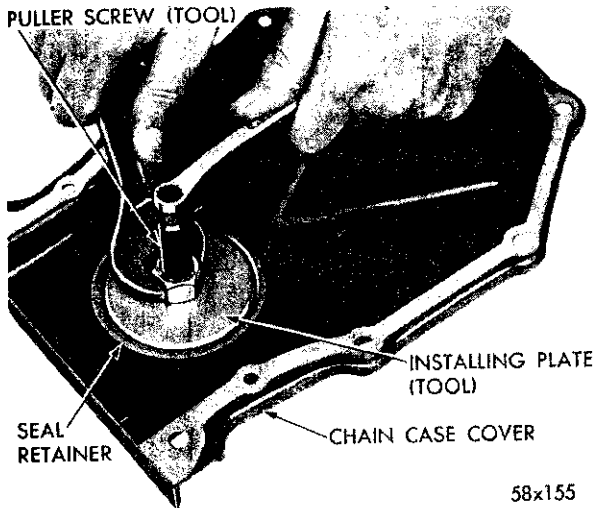

Fig. 25—Installing a New Seal
(4) Install the flat washer and nut on the puller screw, hold screw and tighten the nut (Fig. 25).